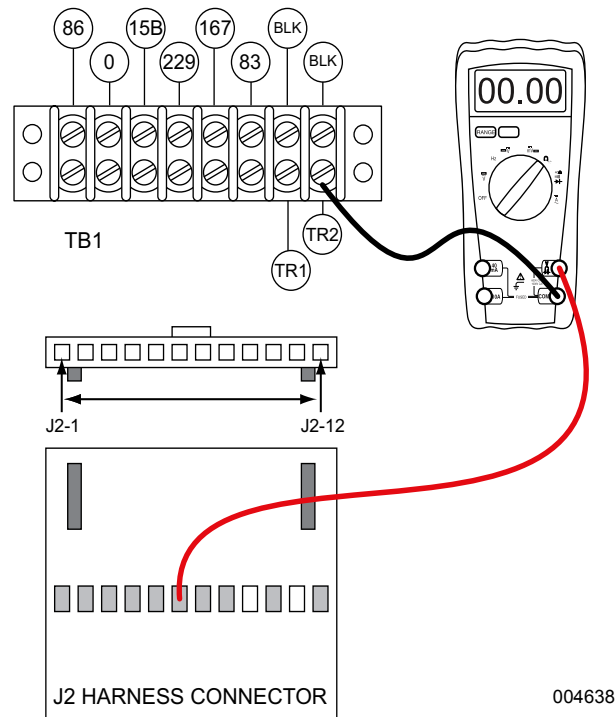

Figure 4-61. Check TR2 Wiring
3. See **Figure 4-61**. Connect one meter test lead to wire TR2 at terminal block 1 (TB1).